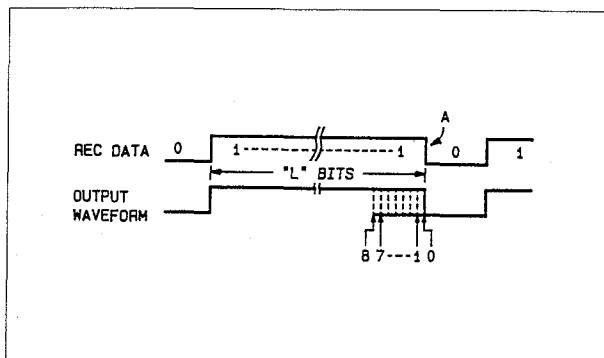

Fig. 3-1-5. Peak Shift Compensation by Phase Modulation (RF-15 Board)
Consequently, when performing digital recording at short wavelengths it is necessary to perform peak shift compensation. This is done by phase modulation in the DVR-1000. In other words, as shown in Fig. 3-1-5., the continuous bit length "L" is detected and the inversion position (A) after the continuous bits is shifted to the front by external data input in advance. One shift step is about 0.5 nsec. As the continuous bit length "L" increases in size, the shift of the inversion position also increases.